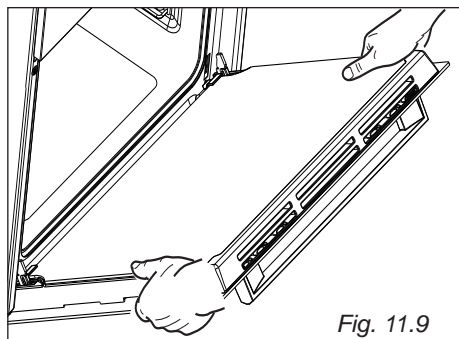

Fig. 11.9
- Hold the door as shown in fig. 11.9.